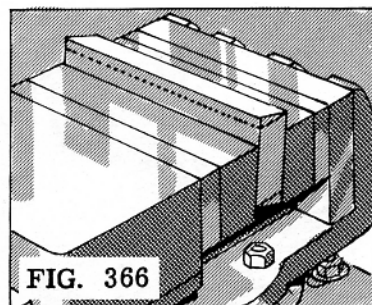

FIG. 366
2. Place the parallels in the vise and the work between the parallels (Fig. 366). Use protecting strips of soft metal or paper between the vise, parallels, and work.